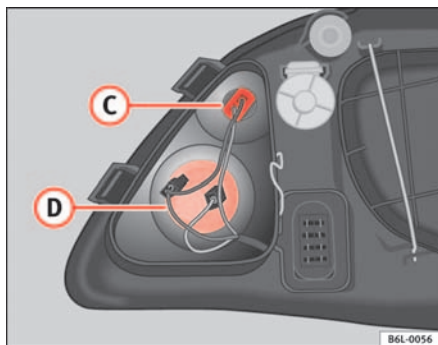

Fig. 157 Indicator lights
- Turn the lamp holder to the left and remove it from the casing ⇒ fig. 157 ②.